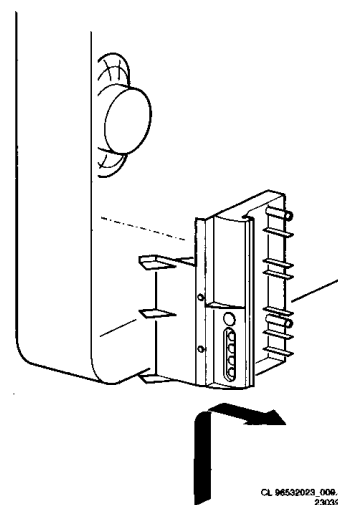

Figure 4-15
1. The complete Side-I/O assembly can be lifted out of the hinges and placed on the bottom plate of the set (see fig 4-15)